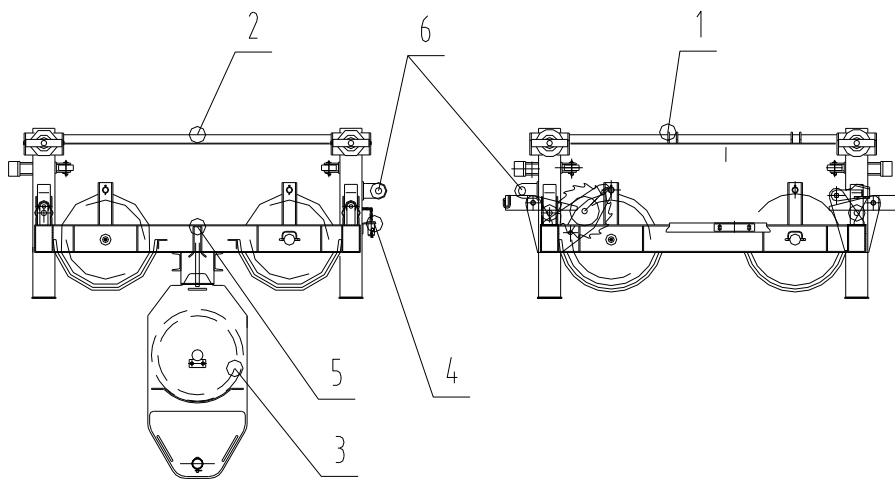

Fig. 4-55 2-fall to 4-fall conversion
- 1) Before fall-change, auxiliary hook is fixed at auxiliary trolley by shafts b, auxiliary trolley is fixed at jib root by shafts a, and then auxiliary trolley is stopped (Fig. 4-55).
- 2) Operate slowly the trolley to move back, when the main trolley impacts the auxiliary trolley. Connect the main trolley and auxiliary trolley with shafts c. Pull back the hoisting rope, uninstalling the shafts b, disport the auxiliary hook and auxiliary trolley; uninstalling the shafts a, disport the jib and trolley (Fig. 4-55).